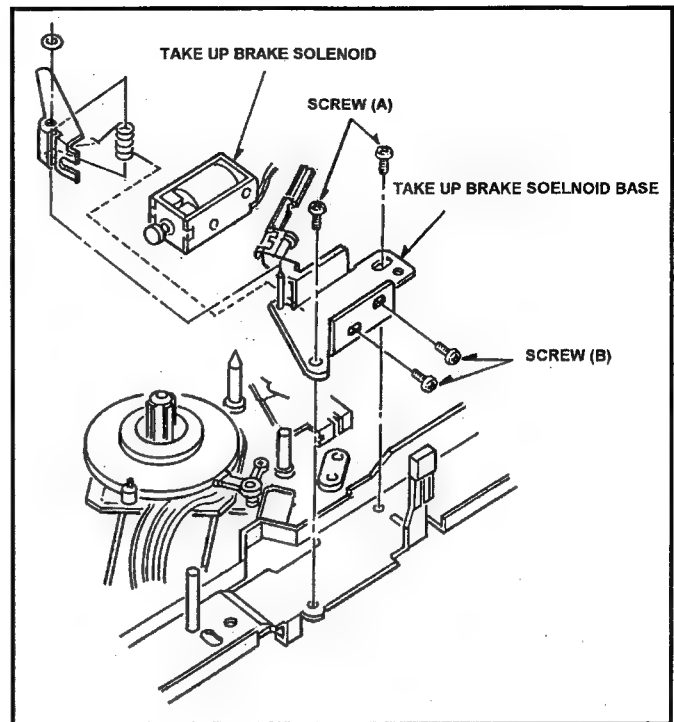

Fig. 6-11-1 Removal of Take Up Brake Solenoid
5. Unscrew the 2 screws (A) and remove the Take Up Brake Solenoid Base Unit as shown in Figure 6-11-1.
6. Unscrew the 2 screws (B) and remove the Take Up Brake Solenoid from Take Up Brake Solenoid Base Unit as shown in Figure 6-11-1.
Note: Hang on the Take up Brake Spring as shown in Figure 6-11-1.